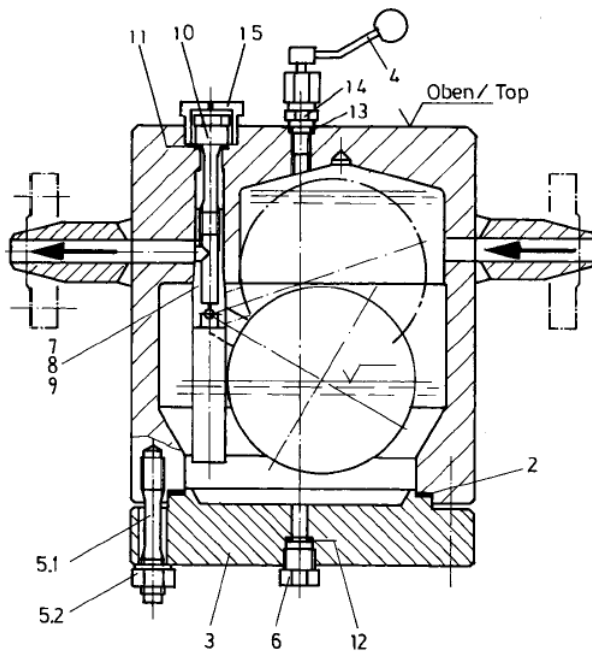

Fig. 1: 1401-1550
- Fitting position according to Fig. 1 and 2, i.e. with lower housing part facing down